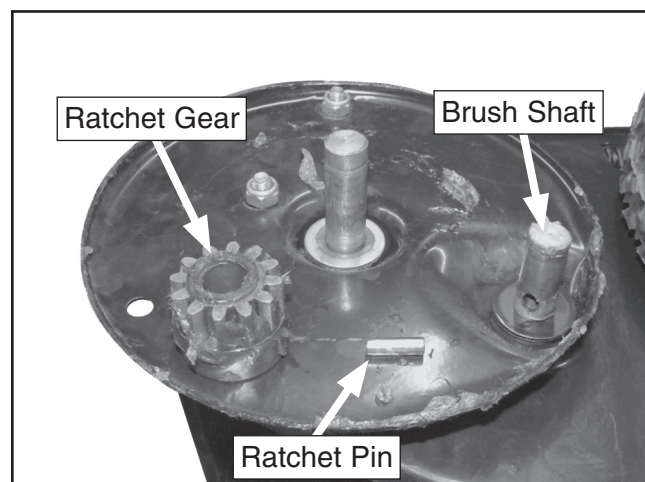

Figure 14. Ratchet gear assembly.
3. Remove the ratchet gear and the ratchet pin (**Figure 14**).